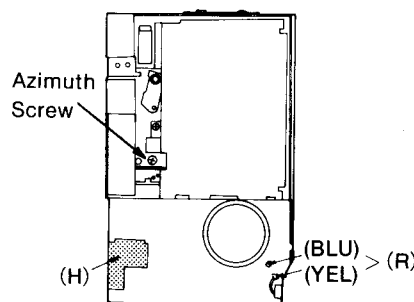

Fig. 6
HOW TO REMOVE THE PRINT CIRCUIT BOARD (Shown in Fig. 6, 10~14)
3. Unsolder the motor lead wires (R). (Fig. 6)